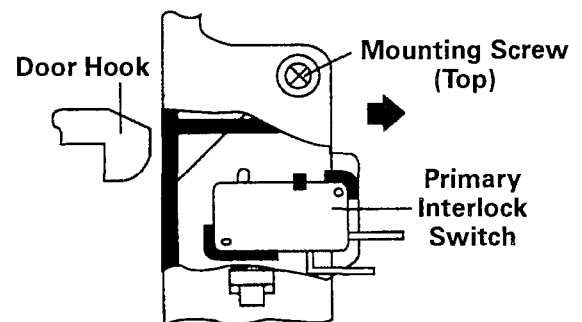

Figure 6
- d. To reduce gap located on part "D". (*Figure 6*)